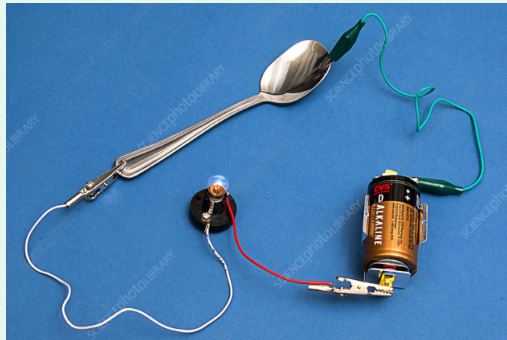

Fig. 2.5: Conductivity test. A battery and a light bulb are used to test the electric conductivity of metal spoons.
- ii. Hold the plastic end of one of the wires and connect it to one end of the metal spoon as shown in Fig. 2.5.